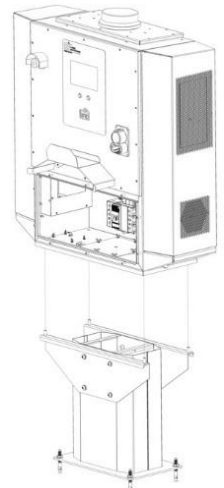

Figure 15
- Lower charger’s mounting holes onto four pedestal studs (Figure 15).